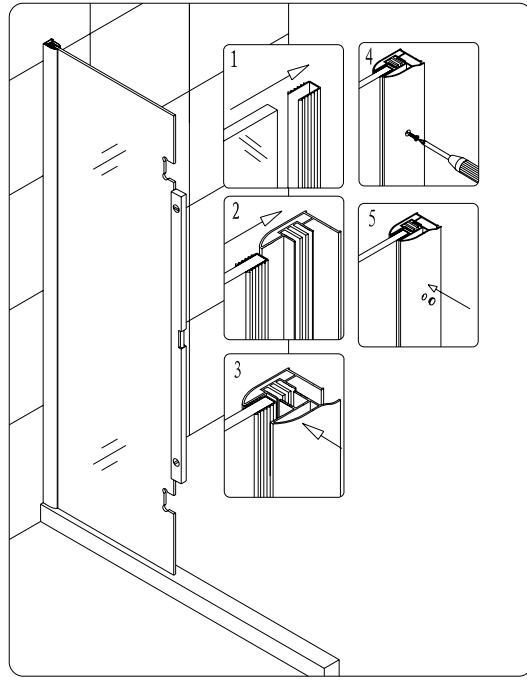

Fig. 2
2. Locate the **Stationary glass panel (02)** from the package and push the **U-shape seal gasket (13)** onto the vertical edge of the stationary glass. Set the glass panel onto the threshold, tray or bathtub, push it sideways fully into the groove of the profile and then secure it with internal **Glass Profile (01)** with **Countersunk screw ST 4.2x18 (09)**. Cover the exposed screw heads with **Decorative Plugs (08)**. See Fig. 2 for details.